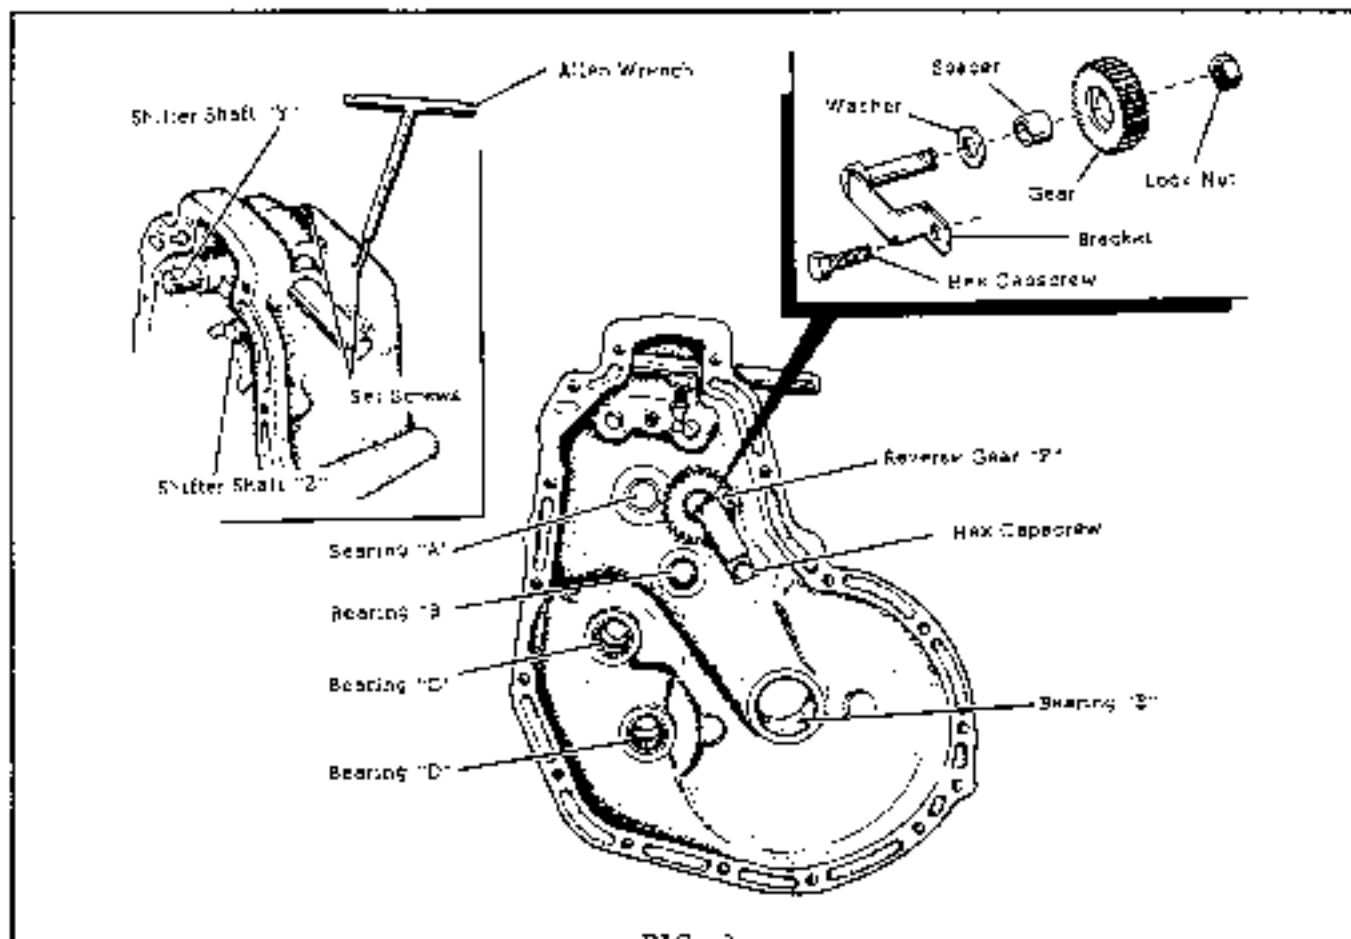

FIG. 3
3. Assemble the shifter fork assembly with the longer shaft into the "Y" shaft hole of the transmission. Take care to be sure that the setscrew, which holds the shaft in place, is actually locked into the setscrew hole of the shifter shaft. Now assemble the shorter shaft into the "Z" shaft hole of the transmission and lock in place in same manner as other shifter fork assembly. See Fig. 3.
4. Assemble the reverse gear "F" as shown in Fig. 3. When properly assembled, insert the gear assembly into the transmission case and position the bracket over the mounting hole in the case. See Fig. 3. Fasten the bracket to the case with a hex capscrew and tighten to 20 ft. lbs.  $+0$  lbs.  $-3$
6. Place a greased flat washer over face of bearing "A" in transmission case. See Fig. 3 & 4. To install shaft "A" and gears, first move the "Y" shift fork into Neutral (See dis-assembly instructions) and move the "Z" fork into raised position (see dis-assembly instructions). Raise the gear cluster on shaft "B" slightly and move shaft "A" toward the shift forks. When you slide the shift rings on the gear assemblies into position against the shift forks, it should be possible to lower shaft "A" into place in its bearing.